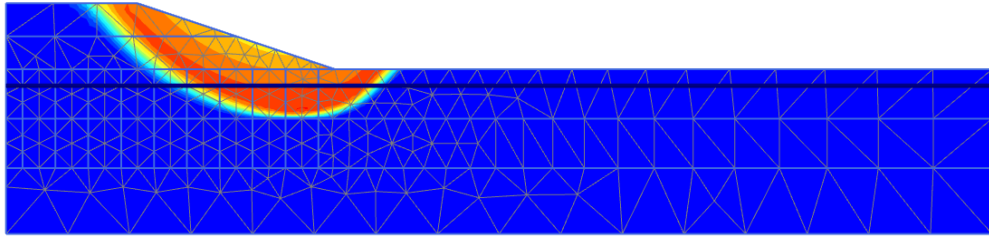

Figure 9-18: Shadings of the total displacement increments indicating the most applicable failure mechanism of the embankment in the final stage
- 3 Change the presentation from **Arrows** to **Shadings** . The resulting plots shown in Figure 9-18 \(p. 160\) gives a good impression of the failure mechanisms. The magnitude of the displacement increments is not relevant.